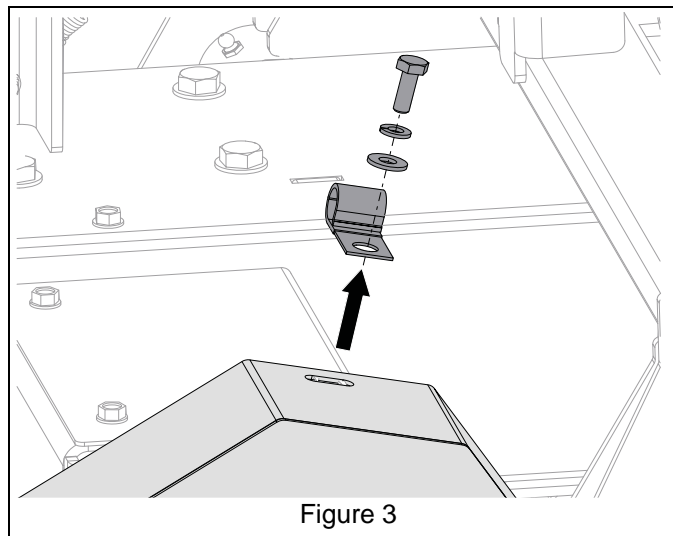

Figure 3
4. Remove and retain one hex bolt, lock washer, flat washer and p-clip from belt shield. See Figure 3.